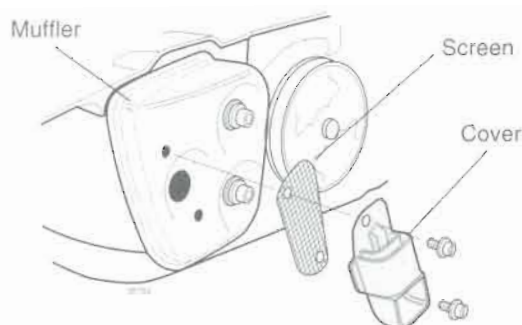

Figure 2.10 Inspect Arrestor Screen (357 shown)
5. Spark Arrestor Screen and Exhaust Port (Figures 2.10 and 2.11)